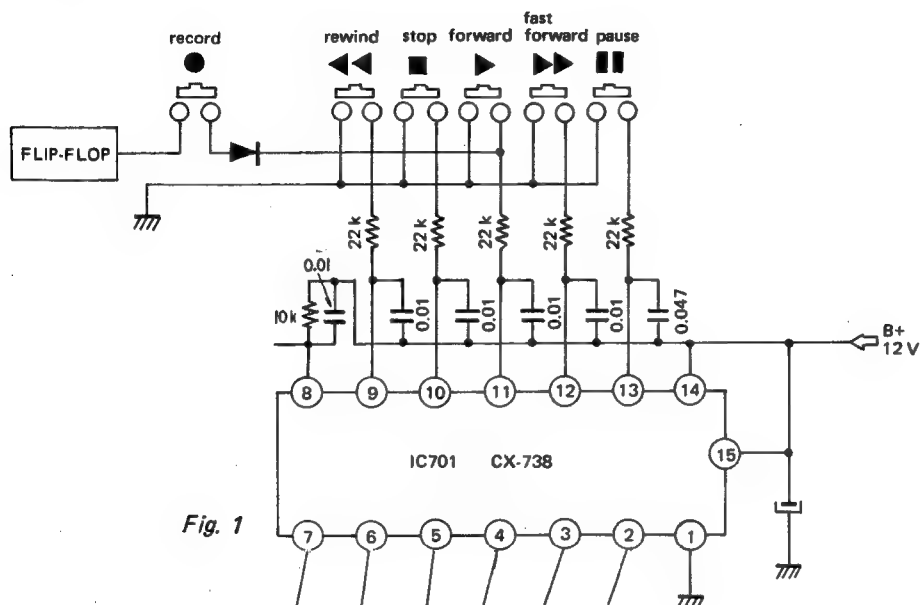

Fig. 1
1. Action of IC701 (CX738) (Refer to Fig. 1)
Fig. 1 indicates the output in each mode by a logic value.